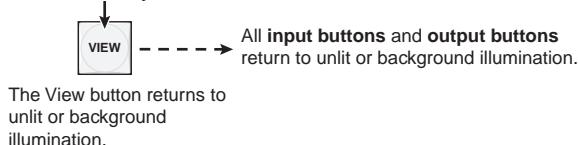

Figure 3-55 — Press the View button to exit View-Only mode
6. Press and release the View button to exit View-Only mode (figure 3-55).